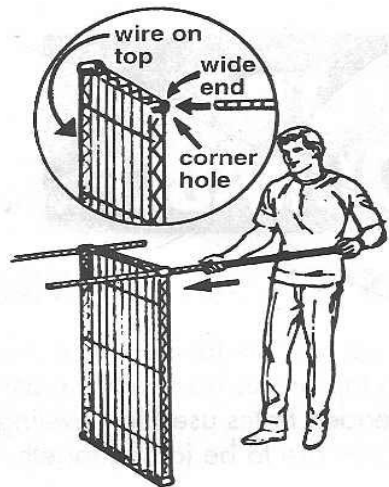

Figure 2
2. Holding a shelf on its side, slide the tube from the bottom of the shelf through one of the corner holes (as in **Figure 2**). The plastic clips will slide nicely into the shelf creating a "double wedge".